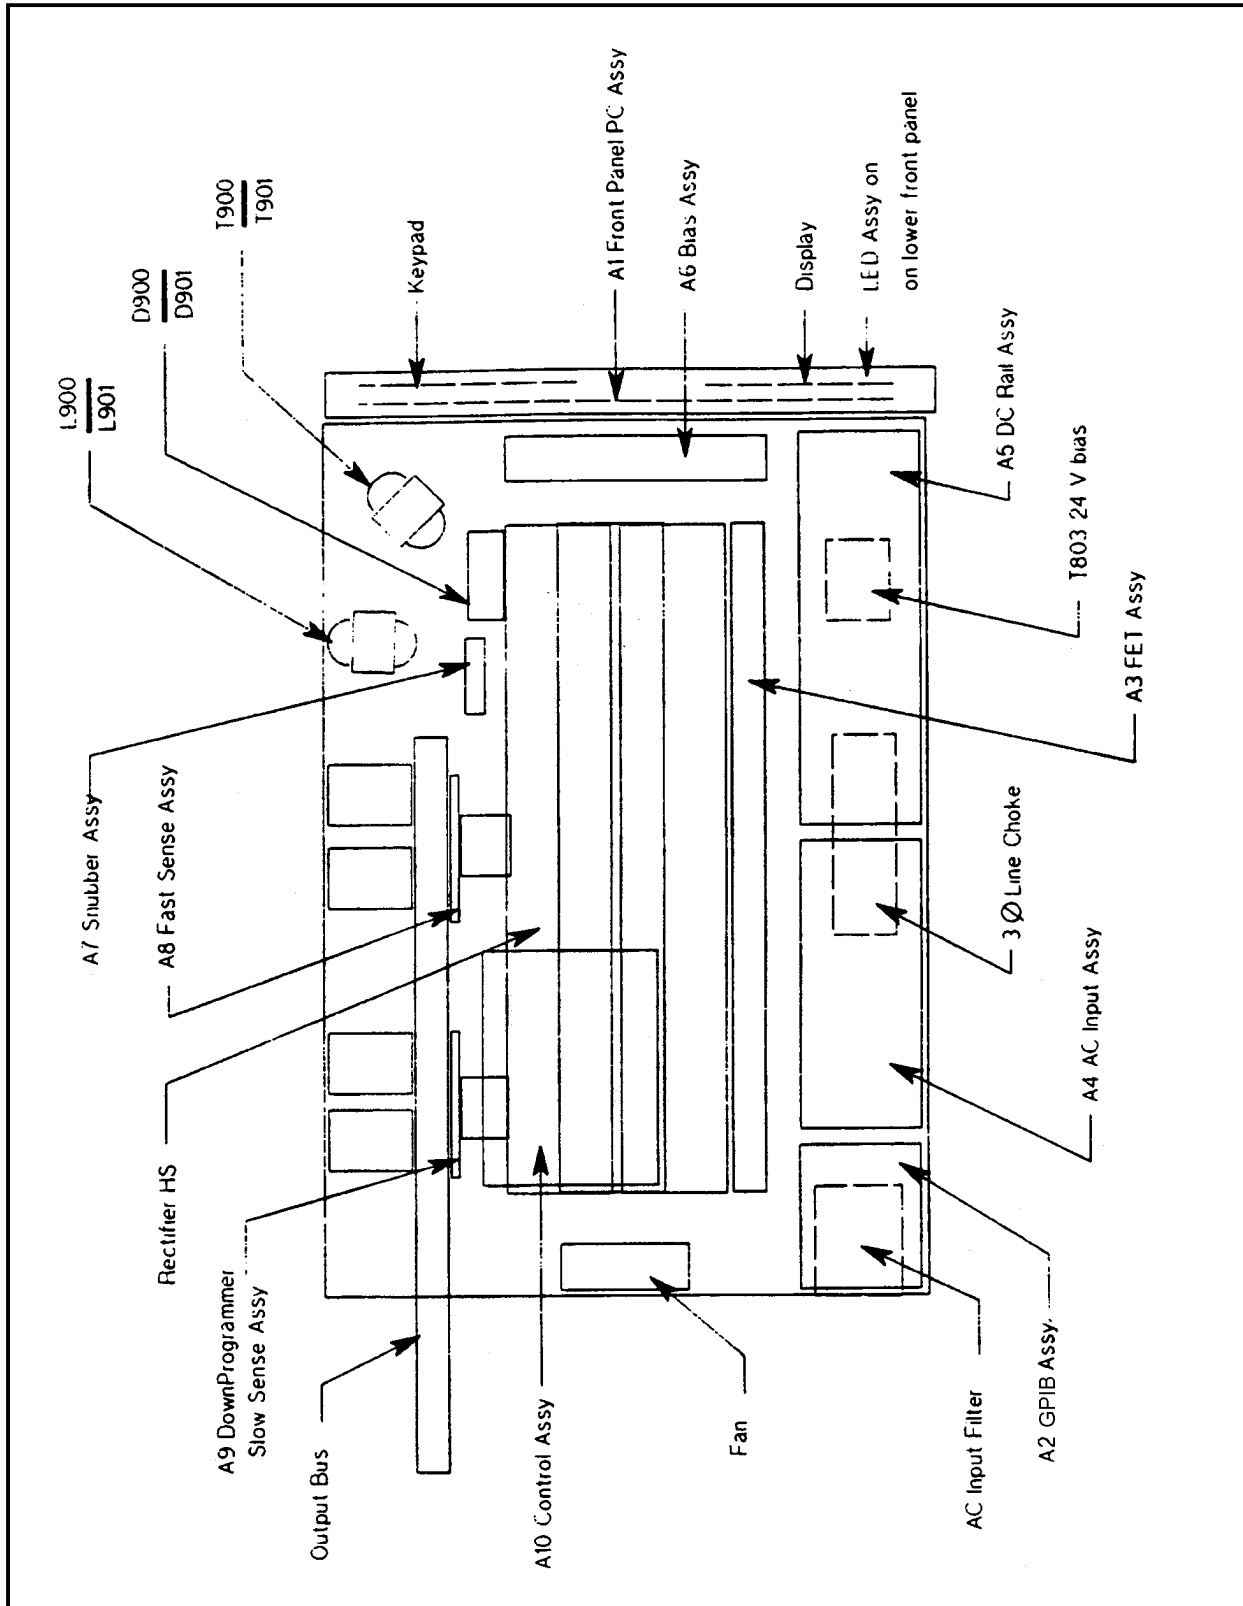

Figure 3-18. Component Locations (Top Cover and RFI Shield Removed)
**Shock Hazard:** Hazardous voltage can exist inside the power supply even after it has been turned off. Check the INPUT RAIL LED (A4CR402) under the RFI shield (see Figure 3-18 end of this section for LED location). If the LED is on, there is still hazardous voltage inside the supply. Wait until the LED goes off (*approximately 7 minutes after power is removed*) before proceeding.